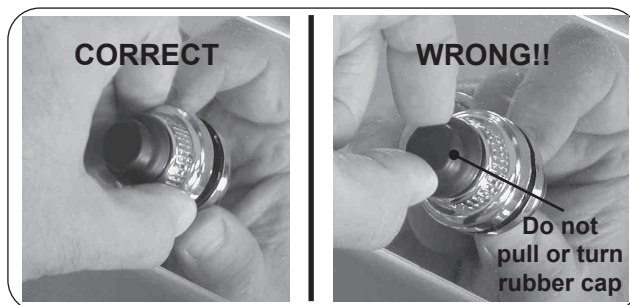

Fig. 31-3 Remove igniter cover
- Important:** Do not attempt to pull or turn the rubber cap (see Fig. 31-3).